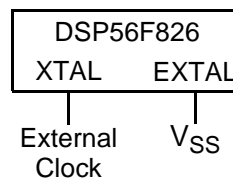

Figure 9. Connecting an External Clock Signal using XTAL
The recommended method of connecting an external clock is given in Figure 9. The external clock source is connected to XTAL and the EXTAL pin is grounded.
1. See Figure 9 for details on using the recommended connection of an external clock driver.